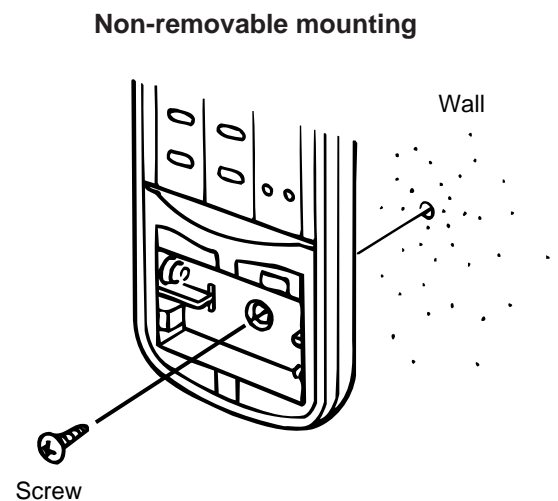

Fig.6b
- 6) Use a screwdriver to screw the remote control unit securing screw into the wall through the hole in the battery compartment. (Fig.6b)